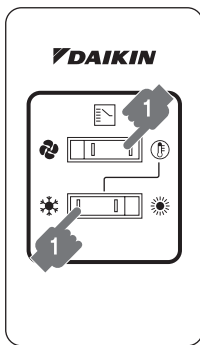

figure 7.1
- “ ❄️ ” “ ❄️ ” Cooling operation (Refer to figure 7.1)